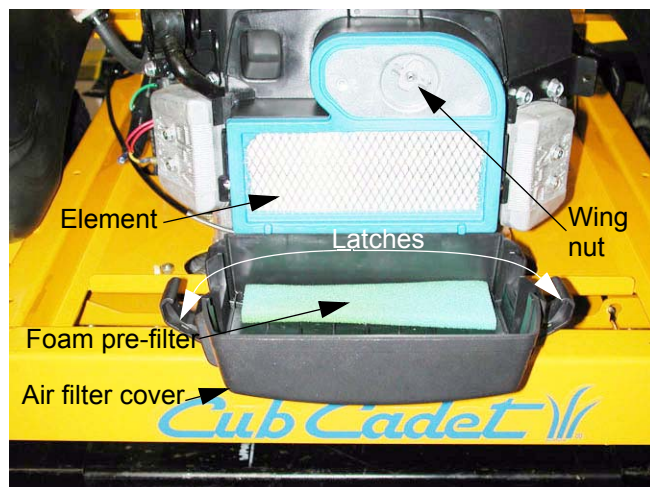

Figure 14.1
- 14.1. The air filter cover is easily removed by releasing the cam action latches at each side of the cover. A wing nut holds the air filter element in place. See Figure 14.1.